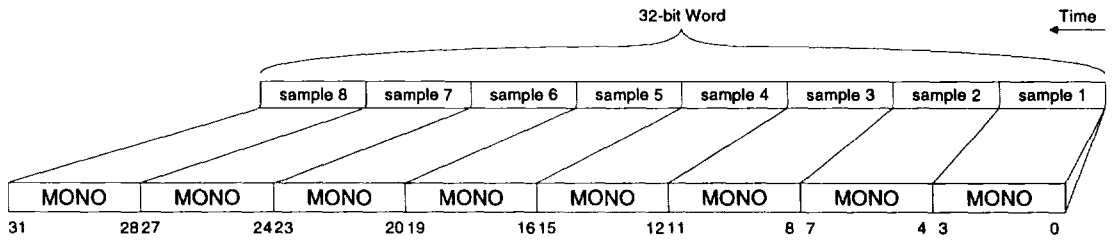

Figure 16. 4-bit Mono, ADPCM Audio Data
Additional data formats are supported in MODE 2 operation: 4-bit ADPCM, and 16-bit signed Big Endian. See Figures 16 through 19. With the addition of the Big Endian and ADPCM audio data formats, the CS4236 is compliant with the IMA recommendations for digital audio data formats (and sample frequencies).
the format, contact the IMA at (410) 626-1380. Figures 16 and 17 illustrate the ADPCM data flow.